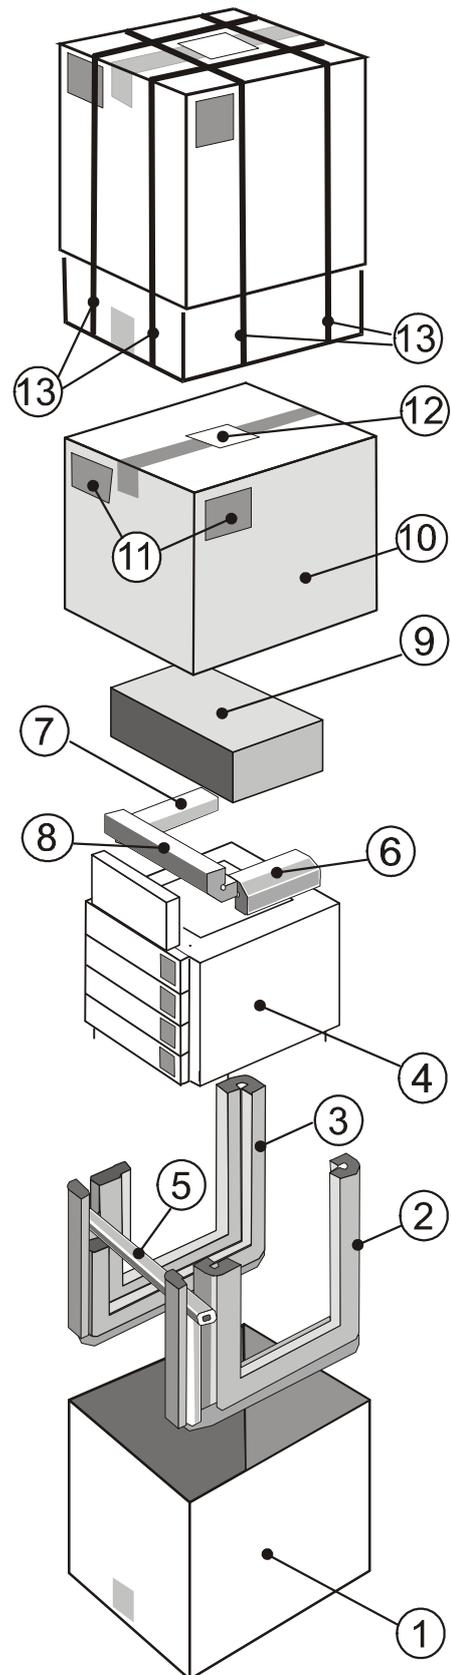
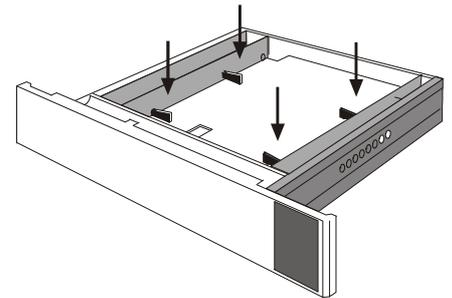

Fig. 5 Re-packing
Fig. 8 Removing Transportation Inserts
**Re-packing** (Fig. 5)
To repack TowerFeed, follow the above steps in reverse. Be sure that all accessories including manuals and diskettes are packed in the box. Remove the trays and insert the transportation inserts as shown in Fig. 8 (It is important to secure the trays to avoid possible shipping damage). Place items according to Fig. 5. Ensure TowerFeed is correctly seated and cushioned. Insert the four blue shock absorbers and close the container.
- Pull out, lift upwards and remove the trays from TowerFeed. Remove the transportation inserts (Fig. 8). There are two at each side (keep the inserts for reshipment).